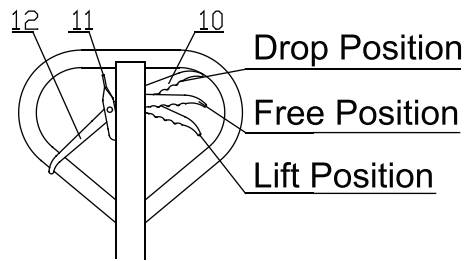

Fig. 5.
- After the truck is assembled, try to rock the hand grip and operate different positions of control handle knob 10 to examine the lifting, free position and dropping and check that whether the different positions are normal or not. See fig 5.
- See fig 5, when hand knob 10 is placed on the lift position, the truck will be in a state of lift. At this time, if you rock the hand grip, the truck will be lifted.
- See fig 5, when hand knob 10 is placed on the free position, the truck will travel. At this time, if you rock the hand grip, the truck will neither lift nor drop. Then, you can use the truck to move the cargo.
- See fig 5, when the hand knob 10 is placed on the drop position, truck forks will drop. At this time, the truck forks will drop automatically.
- See fig 5, when the hand knob 12 is placed below, the truck will be in a state of free walking.
- See fig 5, when the hand knob 12 is placed above, the truck will be in a state of brake.
- See fig 5, hand knob 11 is used for release brake.